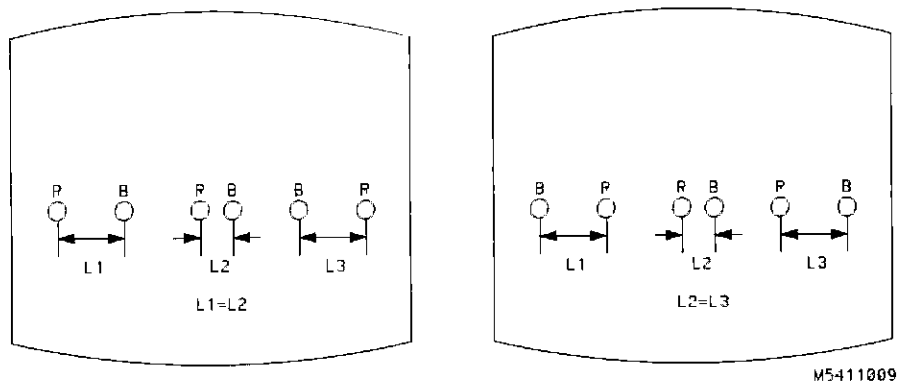

Figure 3-18. H.AMP Adjustment.
- Adjust H.AMP (RV807) located on the bottom PC board for equal amounts of mis-convergence at right and left sides of screen (see figure 3-18).